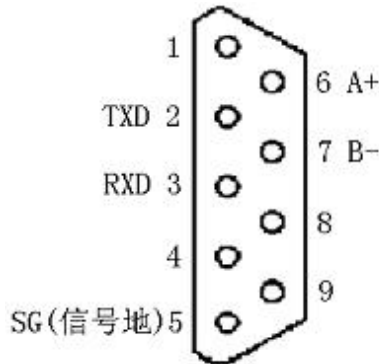

Figure4. 9-pin Standard D-Sub socket
4.5 Serial communication connection(Figure 4)
Please connect pin 2(TXD) , pin 3(RXD) and pin 5(SG) showed in figure 4 to PC's standard RS232 serial port's corresponding pin 2(RXD),pin 3(TXD) and pin 5(Signal COM);
Please connect pin 6(A +) , pin 7(B -) showed in figure 4 to the Master(PC)'s standard RS485 serial port's corresponding pin(A +) , pin(B -) . In fact, this is the Half-Duplex RS485 Communication Mode, you should set every 8CM Accumulator to the different address, the Master(PC) can discern every 8CM Accumulator by the different address, in this mode you can use one Master(PC) communicate with 16 8CM Accumulators (if you want know more about the communication protocol, please read the Appendix One).